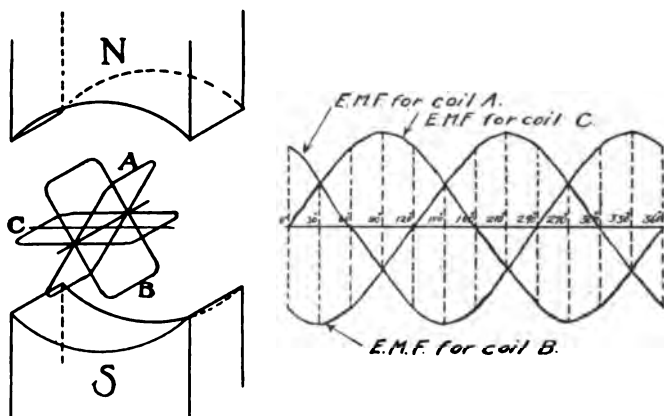

FIG. 441.—Graph showing the e.m.f. changes of a three-phase current for one "cycle."
**440. Three-phase Currents.**—Now suppose we have three coils as in Fig. 441, the coils being evenly spaced, or 120 degrees apart, at *A*, *B*, and *C*. If the coils are rotated in a magnetic field, each will produce an electro-
motive force. The result produced by three such coils is called a *three-phase* current. Ordinarily six wires, or three circuits, would be required to carry the current produced by three separate coils; for when coil "C" is in the 90 degree position, where its e.m.f. is a maximum, coil "B" is 120 degrees past its maximum, and coil "A" is 240 degrees past its maximum. The graph (Fig. 441) shows the maximum points of the three e.m.f.'s. separated by intervals of 120 degrees. In practice, however, it is found possible to use *three wires* instead of six, as explained in Art. 441.
**441. Three-wire Transmission.**—The currents produced in the three coils just described undergo precisely the same changes as those represented in the *graph* (Fig. 441) for the three electromotive forces. Careful examination of the graph will show that at any point the sum of the *plus* e.m.f.'s. equals the sum of the *minus* e.m.f.'s. In other words the algebraic sum of the three e.m.f.'s. is zero. Therefore if we properly connect a transmission line of three wires to the generator, the sum of the currents